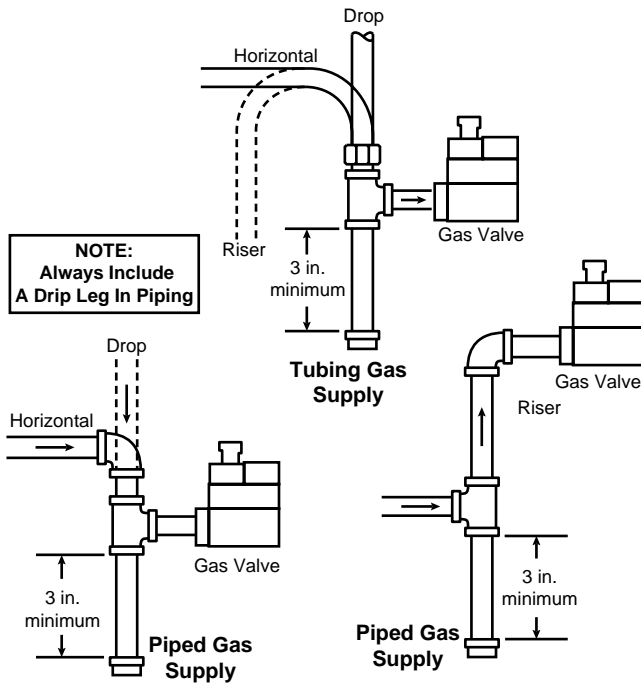

Figure 1. Typical gas valve piping
5. Apply pipe joint compound (pipe dope) or teflon tape **that is approved for all gases, only to the male threads of the pipe joints. DO NOT** apply compound or teflon tape to the first two threads (see fig. 1 for typical piping connections).